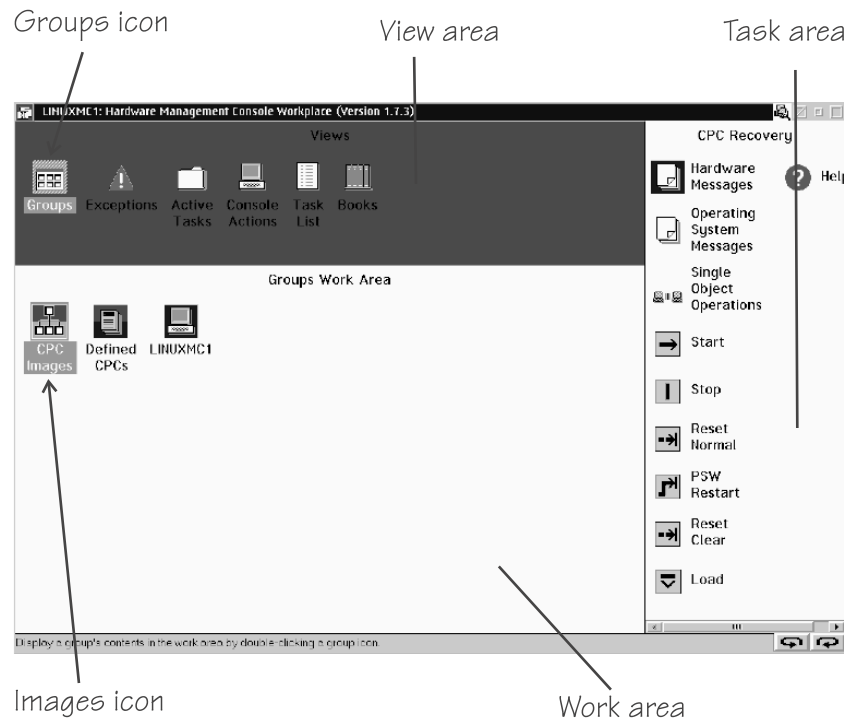

Figure 65. Groups Work Area on the HMC
1. Click the Groups icon in the "Views" area of the HMC to display the "Groups Work Area" (Figure 65 on page 377).